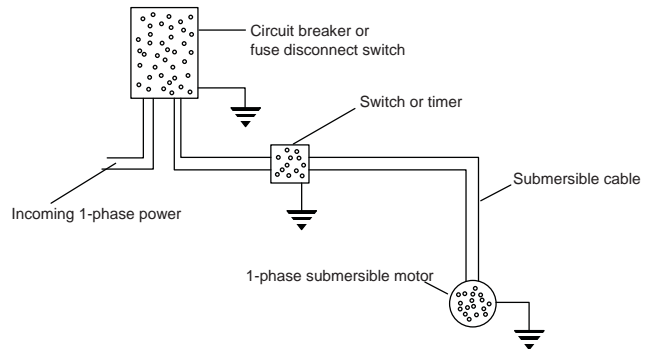

FIGURE 2
3. Make sure power supply is turned off and circuit breaker or disconnect switch is open. Make electrical connections appropriate to your motor as shown in Figure 2, 3 or 4.
7. A two-wire pump does not require a motor control box; all electrical components are built inside the motor. Figure 2 shows a typical wiring diagram for a two-wire installation.
3. Install a pressure switch between the check valve and the pressure tank. Refer to Figure 2, 3, or 4 for proper wiring connections of pressure switch.